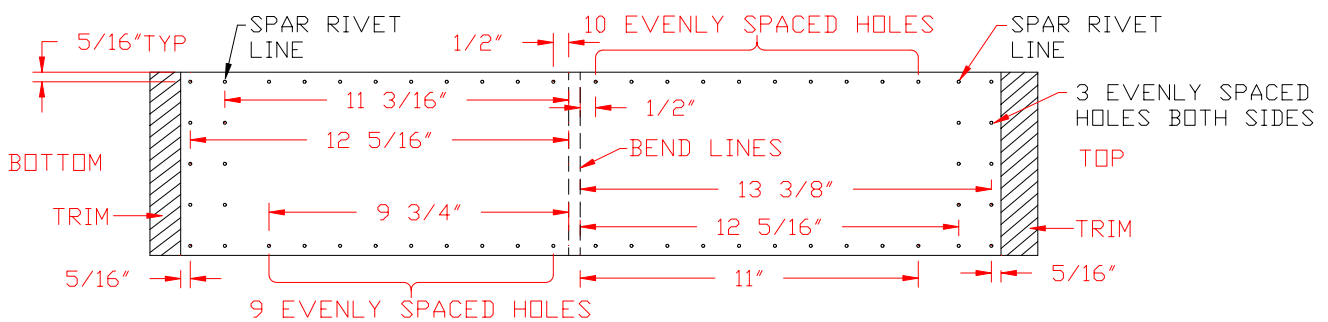
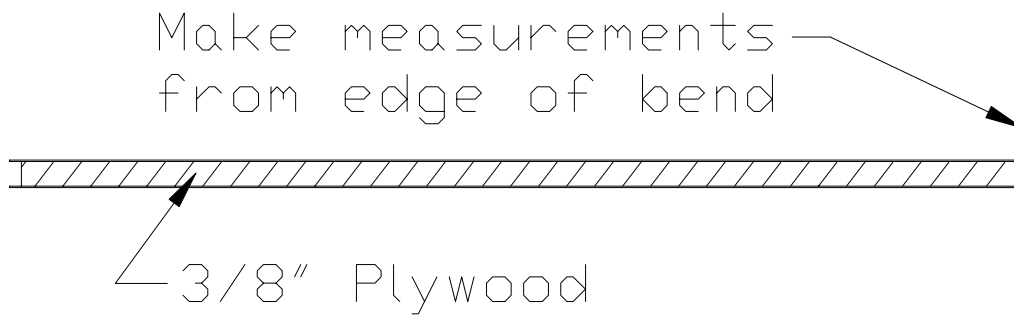

Figure 7.6.2
Figure 7.6.3
- 2) Locate the Spade Skin (AIL-307). Layout and drill #40 holes as per figure 7.6.2. Trim and debur.
NOTE: The skin is shown flat in figure 7.6.2 for clarity. **Do not** flatten AIL-307. Place a piece of 3/8" plywood between the folds when drilling. Figure 7.6.3.